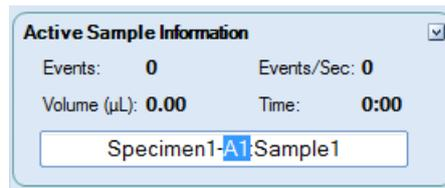

Figure 3-4 Modify Well ID in the Cytometer Control Panel
- In the *Active Sample Information* window of the *Cytometer Control* panel (Figure 3-4), click the sample name and modify the Well ID to A2.